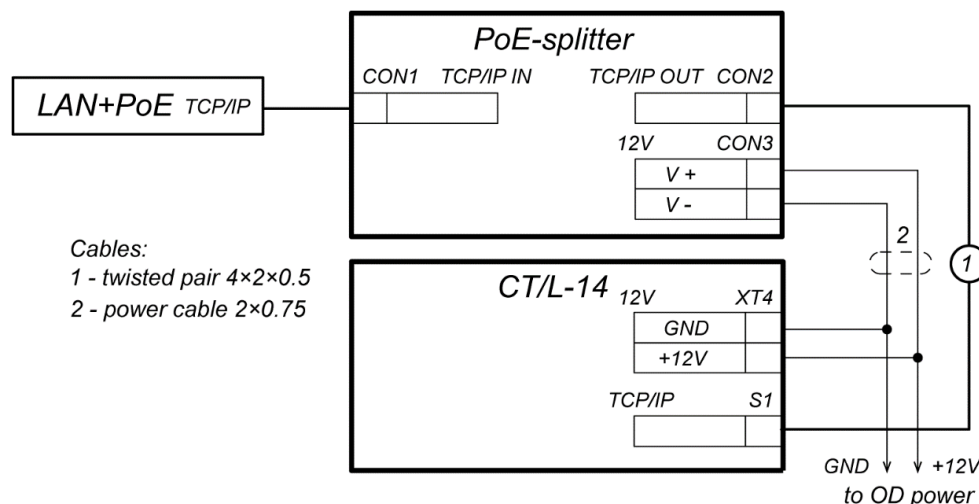

Figure 17. Connection layout of the controller through PoE-splitter
3. Connect the power supply to **Con3** connector. If necessary OD can be connected to **Con3** connector as well. Connection layout is shown in Fig. 17 (plug for connection to connector included into splitter delivery set).